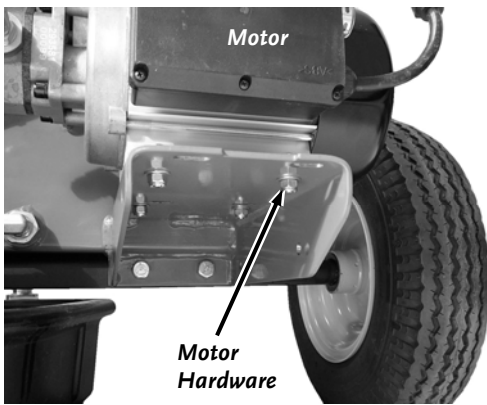

Figure 4
7. Position the Electric Motor with Pump onto the Frame Mount and secure with the new Bolts, Washers (one Washer on Bolt side and one on Locknut side) and Locknuts using two 1/2" Wrenches (**Figure 4**).